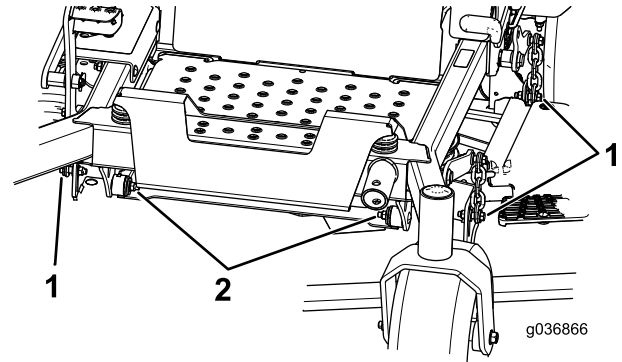

Figure 124
7. Remove and retain the bolts and nuts on both sides of the machine (Figure 124).